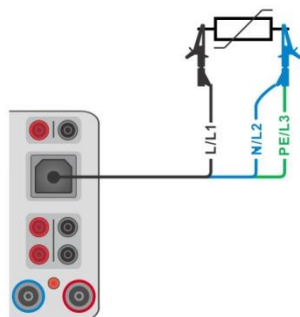

Figure 6.36: Connection of 3-wire test lead
- › Connect 3-wire test lead to object under test, see **Figure 6.36**.